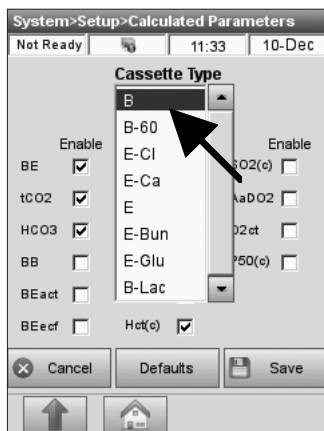

Fig. 3-23 Select Parameters
3. Select the cassette type (Fig. 3-23).